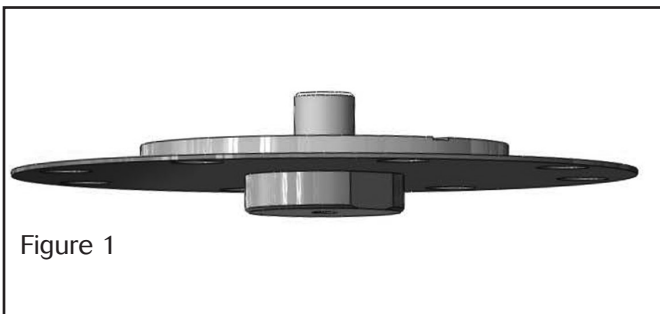

Figure 1
3. Refer to Figure 1 for diaphragm subassembly.